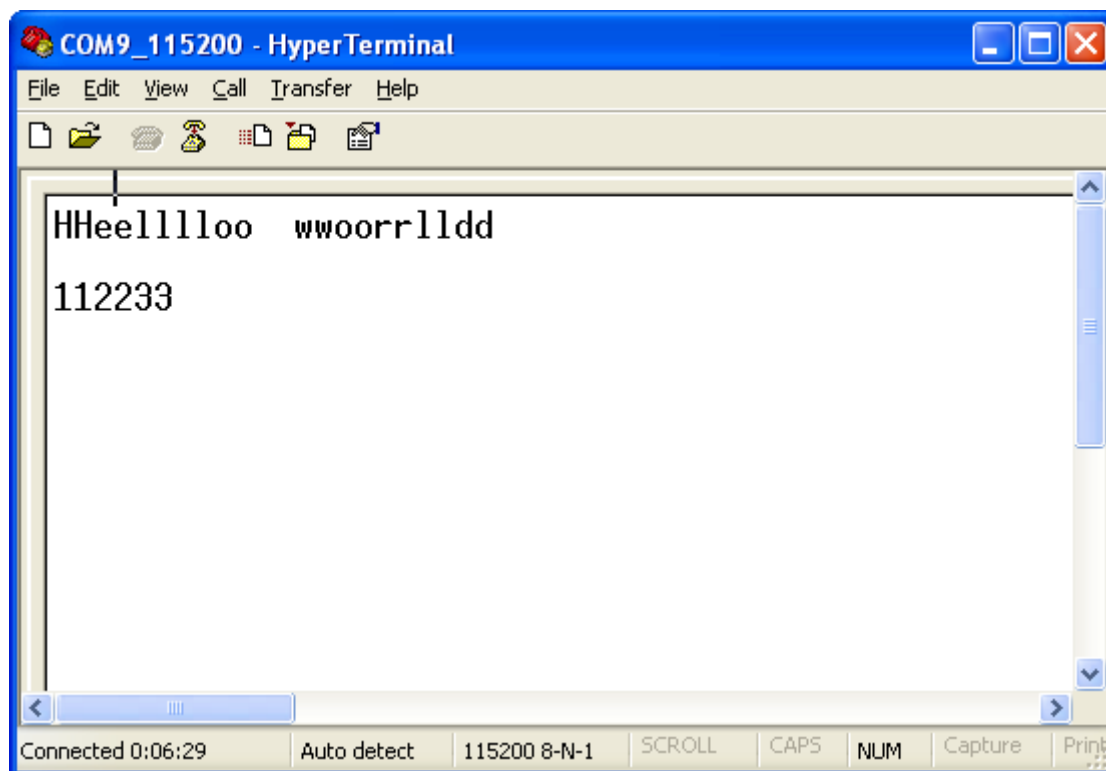

Figure C-9. COM9_115200 - HyperTerminal
8. The HyperTerminal is configured now. Whatever is typed will be echoed back from the virtual COM port. Therefore, it appears in duplicate as shown in Figure C-9.